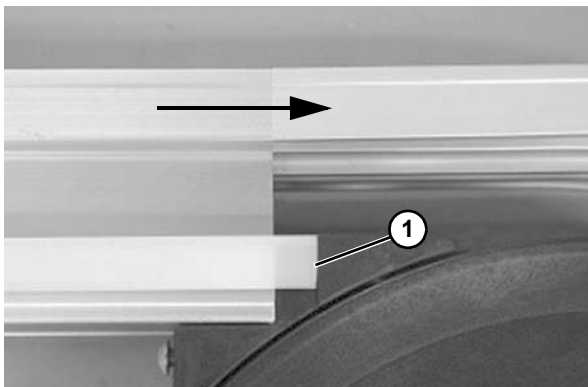

Figure 36
1. **Infeed Wheel Bend:** Cut the slide rail end (**Figure 36, item 1**) in flat. Make sure there is a 5 mm gap created at the plastic molding part. The step is applied onto outfeed as well.